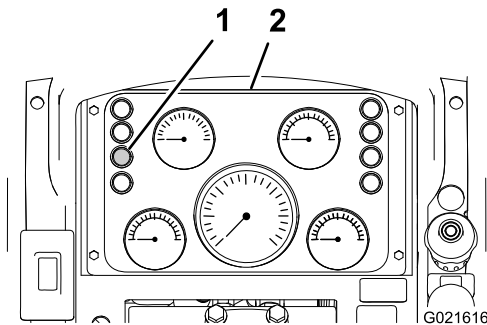

Figure 46
2. Check the restricted air-cleaner light on the instrument cluster (Figure 46).